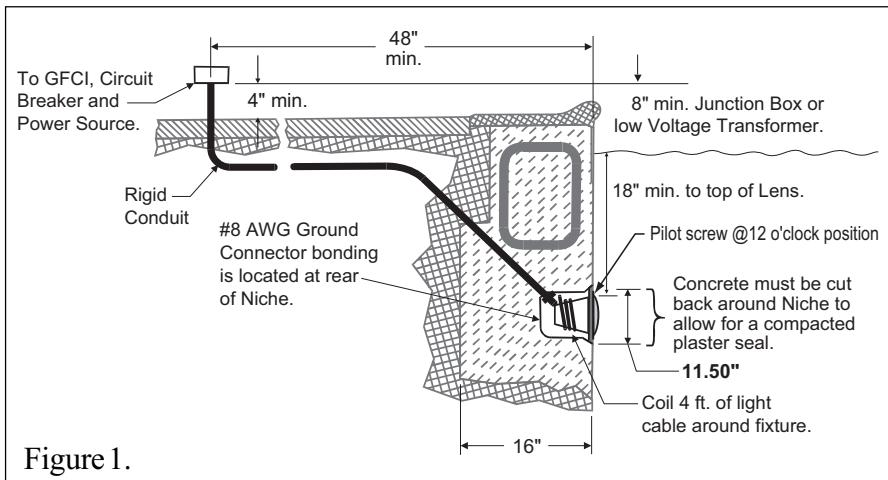

Figure 1.
- A. Preparatory steps which must be completed by the electrician before light fixture is installed; see Figure 1.
- b. The Junction Box (or, for 12 volt models, the low voltage transformer) must be located at least 8 inches above water level, 4 inches above ground level, and at least 48 inches from the edge of the pool; see Figure 1.
- d. The wet niche must be properly installed so the pilot screw hole is at the 12 o'clock position and that the top edge of the underwater light's lens is at least 18 inches below the surface of the water in the pool; see Figure 1.
- e. The wet niche must be properly electrically bonded and grounded via the No. 8 AWG ground connector located at the rear of the niche; see Figure 1.
1. Feed cord through conduit to Junction Box, leaving at least 4 feet of cord at the light fixture to coil around the light; see Figure 1. This 4 feet of cord around the light allows the light to be serviced after the pool is filled with water.
- b. The Junction Box (or, for 12 volt models, the low voltage transformer) is located at least 8 inches above water level and at least 4 inches above ground level and at least 48 inches from the edge of the pool; see Figure 1.
- d. The wet niche is properly installed so that the top edge of the underwater light's lens is at least 18 inches below the surface of the water in the pool; see Figure 1.
- e. The wet niche is properly electrically bonded and grounded via the No. 8 AWG ground connector located at the rear of the niche; see Figure 1.
- Leave at least 4 feet of cord to coil around the light fixture; see Figure 1. This 4 feet of cord coiled around the light allows the light to be serviced after the pool is filled with water.